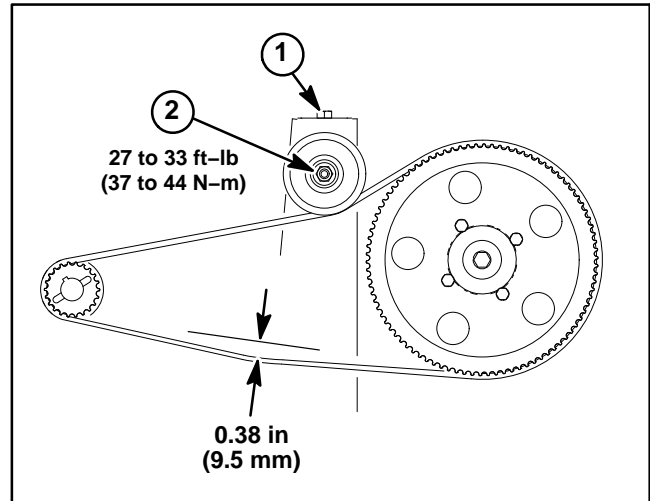

Figure 1
1. Loosen idler pulley flange nut (Fig. 1).